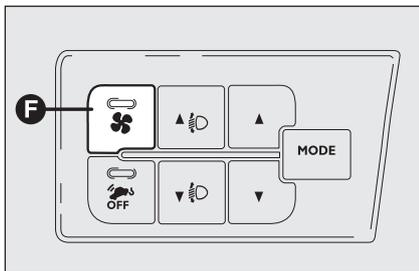

fig. 49
**IMPORTANT** to guarantee fast demisting/defrosting if the additional heater/conditioner (under the seat or rear for Panorama and Combi versions) is on, turn it off by pressing button **F** (led off) located on the control panel **fig. 49**.